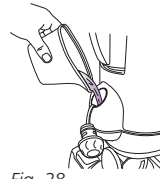

Fig. 28
- 2 Use the filling flask and pour water into the tank. (Fig. 28) Do not overfill. Replace the cap on the water tank by turning cap clockwise and tightening.